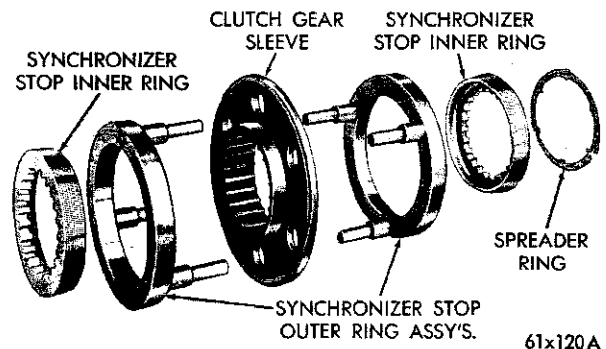
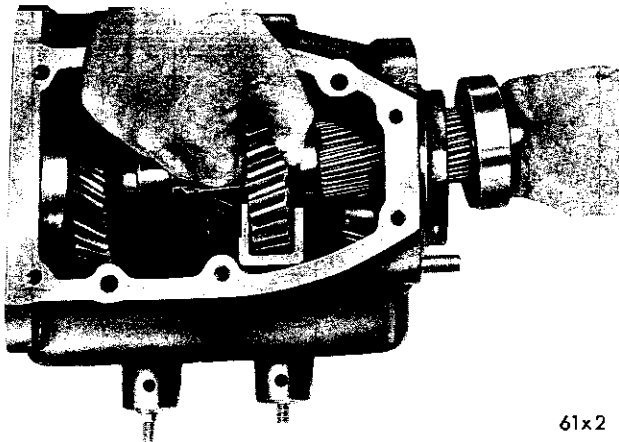

Fig. 5—Synchronizer Assembly
Fig. 6—Removing the Mainshaft Assembly
- (1) Remove the mainshaft rear bearing snap ring from the groove in the mainshaft rear bearing bore in the case.
- (2) Slide the mainshaft and rear bearing assembly to the rear, until the rear bearing is out of the case.
- (3) Remove the synchronizer assembly (Fig. 5) from the mainshaft and out of the case.
- (4) Remove the second and third speed shift fork.
- (5) Remove the synchronizer clutch gear snap ring using Tool C-484.
- (6) Remove the synchronizer clutch gear, second speed gear and first and reverse sliding gear from the mainshaft.
- (7) Remove the mainshaft and bearing out through the rear of the case (Fig. 6).
(1) Place the oil slinger on the main drive pinion with the offset outer portion next to the drive pinion teeth (Fig. 6).
(2) Place the main drive pinion bearing on the pinion shaft with the outer snap ring away from the pinion gear.
(3) Press the bearing into position so it is seated